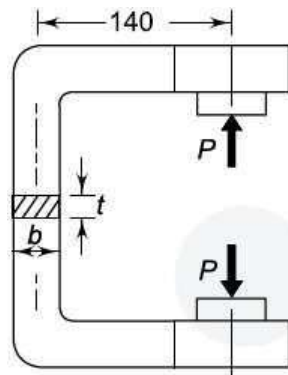

Figure: 5.5
8. Fig 5.5 shows a C-clamp, which carries a load P of 25 kN. The cross-section of the clamp is rectangular and the ratio of width to thickness (b/t) is 2:1. The clamp is made of cast steel of Grade 20-40 ($S_{ut} = 400 \text{ N/mm}^2$) and the factor of safety is 4. Determine the dimensions of the cross-section of the clamp.